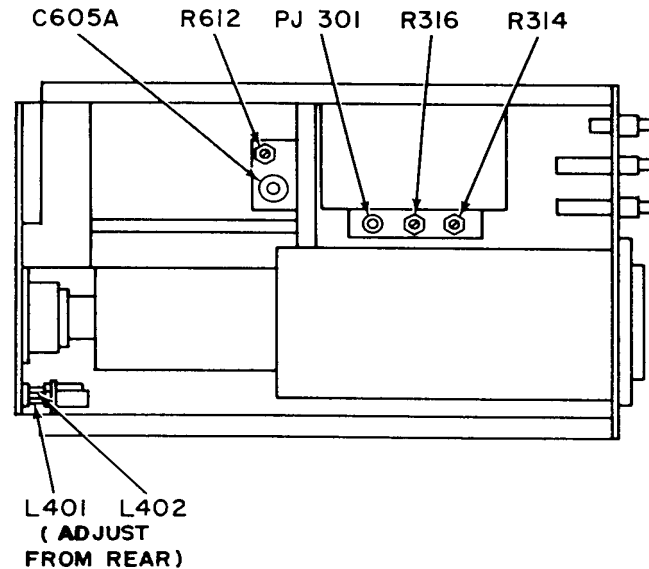

Figure 1. Oscilloscope-top view.
- (1) Loosen mounting strap at base of crt (cathode ray tube) and rotate crt until trace is parallel with horizontal graticule centerline. Tighten mounting strap.
- (2) Adjust R316 (fig. 1) until time-markers are parallel with vertical graticule lines.
- (1) Set POWER switch to OFF and remove protective cap from rear of crt socket.
- (2) Connect voltmeter (A5) between pin 9 of crt socket and chassis ground, using two test probes (B12).
- (3) Set POWER switch to ON and allow 5 minutes for warm-up.
- (4) Adjust R314 (fig. 1) until voltmeter indicates -25 V dc.
- (5) Adjust FOCUS and ASTIG control and, if necessary, R314 for optimum overall resolution and focus of display.
- (6) Set POWER switch to OFF and replace protective cap on crt socket.
- (7) Set POWER switch to ON and allow 5 minutes for warmup.
(2) Alternately adjust L401 and L402 (fig. 1) in small increments for minimum overshoot and/or rounding of square-wave display (R).